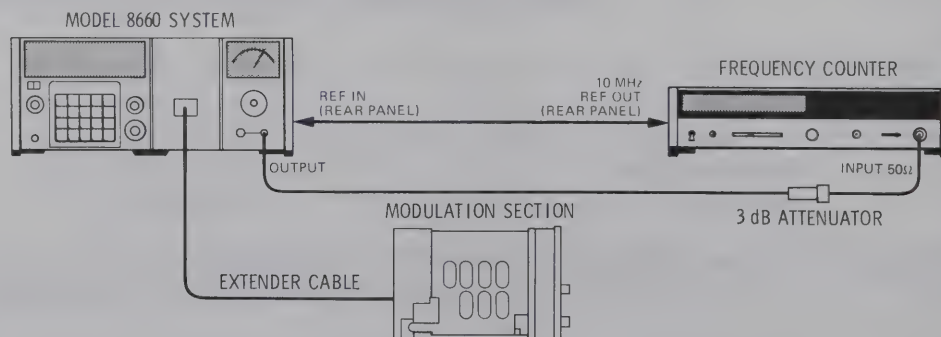

Figure 5-6. VCO Center Frequency Adjustment Test Setup
- 1. Connect the equipment as shown in Figure 5-6.